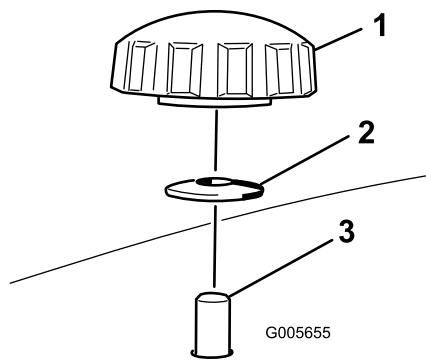
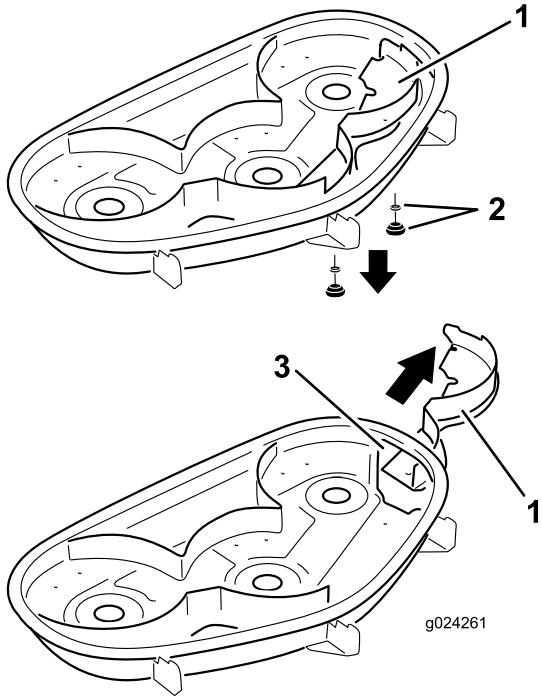

Figure 32
Figure 33
4. Remove the 2 knobs and curved washers that secure the right baffle to the mower (Figure 32).
5. Remove the right baffle and lower the grass deflector over the discharge opening as shown in Figure 32 and Figure 33.
5. Slide the right baffle under the mower deck, and secure it using 2 knobs and the curved washers (cupped side facing the mower) as shown in Figure 32 and Figure 33.